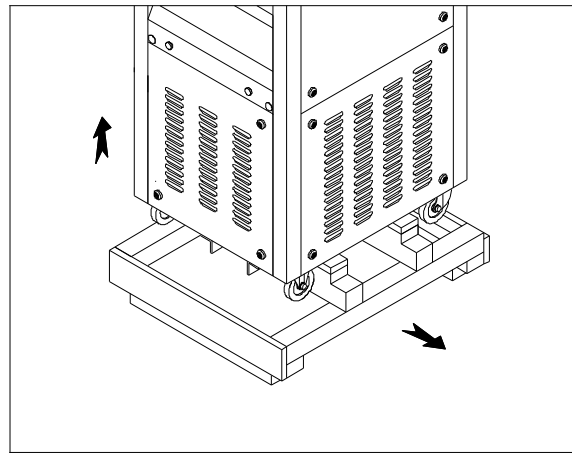

Figure 4-2
- C. Raise the machine, draw out the pallet (Figure 4-2).